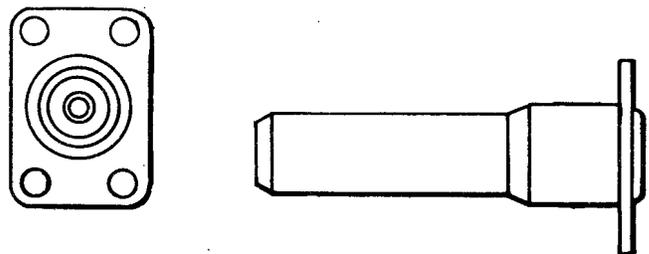

Fig. 5—806A Connector
2.07 806A: The 806A connector (Fig. 5) is a coaxial-type connector. The center conductor, at the mounting end, is arranged for soldered wire connection. This connector is not arranged for connection to a coaxial cable. The other end is arranged to mate with 558A, 560A, and similar-type jacks. The body is electrically common with the mounted plate. This connector is tested at 1500 volts ac and is used on 63-type pads.